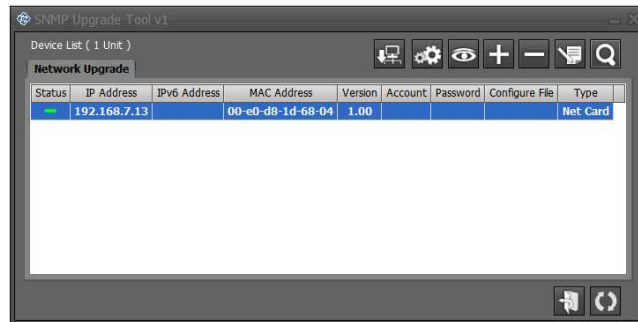

Figure 6
- Execute “SNMP Upgrade Tool”, as following Figure 6.